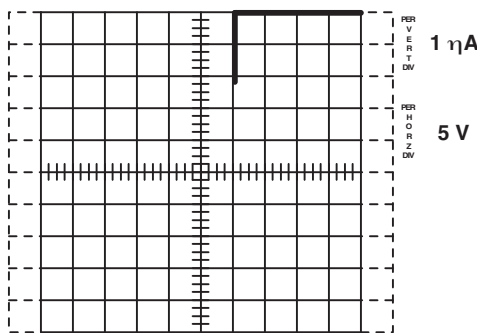

Fig. 6 - Gate-source leakage current at -20 V
- The above procedure is for determining gate leakage current with a positive gate voltage. To make the same measurement using a negative voltage, reduce the **variable collector supply** voltage to zero, change the **polarity** switch to the **PNP** position, and reapply the voltage (see figure 6). The trace will take time to settle because of the gate-source capacitance.